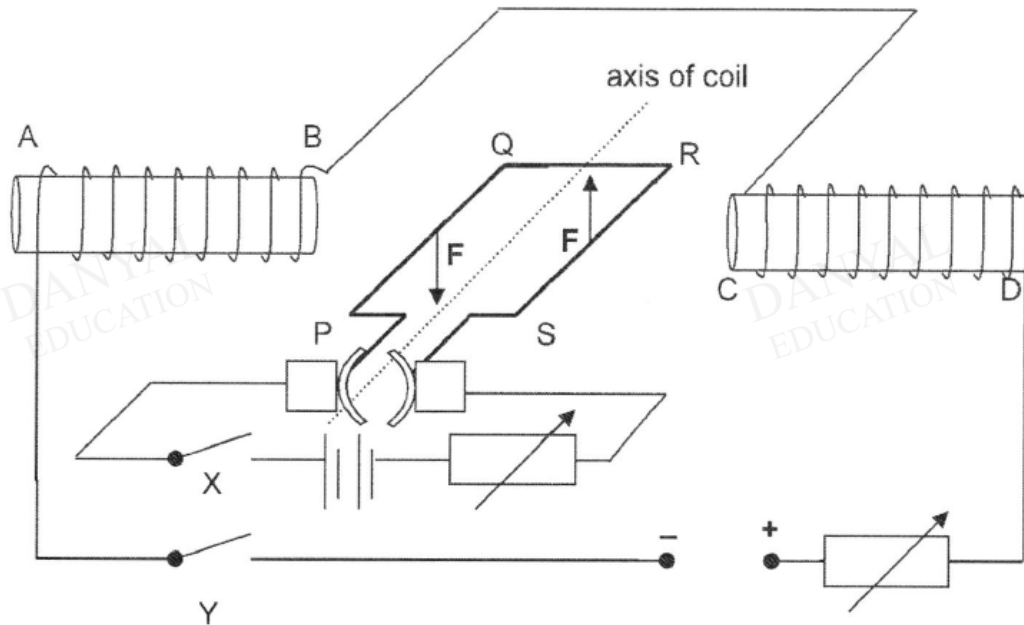

Fig 11.1
- (a) Fig. 11.1 shows an electric motor where a coil PQRS is connected to a battery and is placed between two solenoids AB and CD which are connected to a separate d.c. power supply.
- (i) On Fig. 11.1, **F** represents the force experienced by sides PQ and RS of the coil when both switches X and Y are closed.